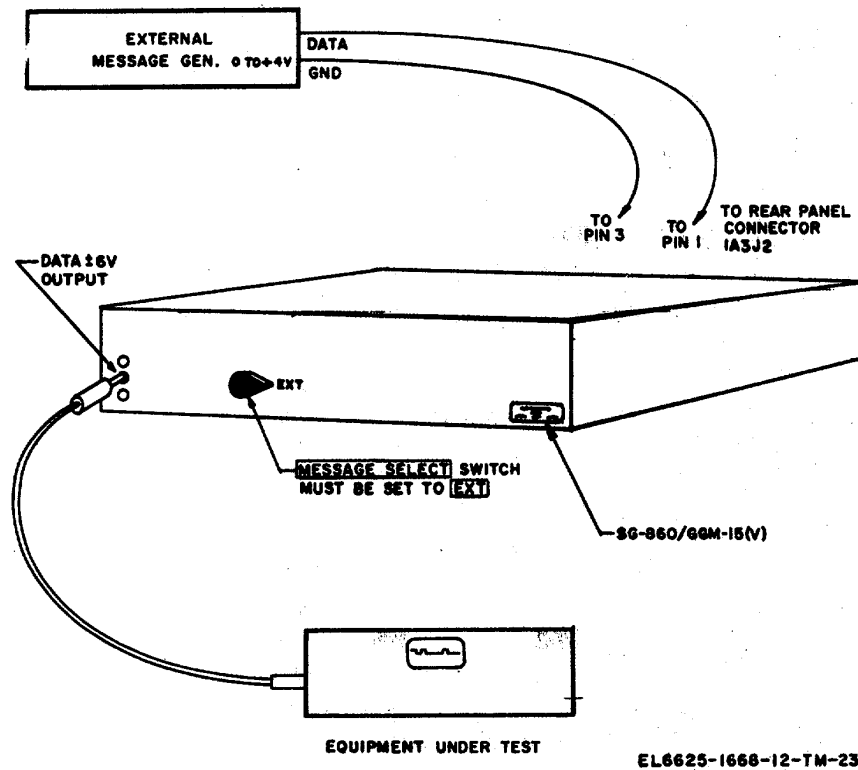

Figure 3-8. External message test setup.
(8) *Typical EXT message operation.* The following is a typical example of an external (free run) message operation. For the purpose of this procedure 25% switching bias distortion is introduced to the message. The output signal applied to the equipment under test is low level  $\pm 6$  volts polar (fig. 3-8).